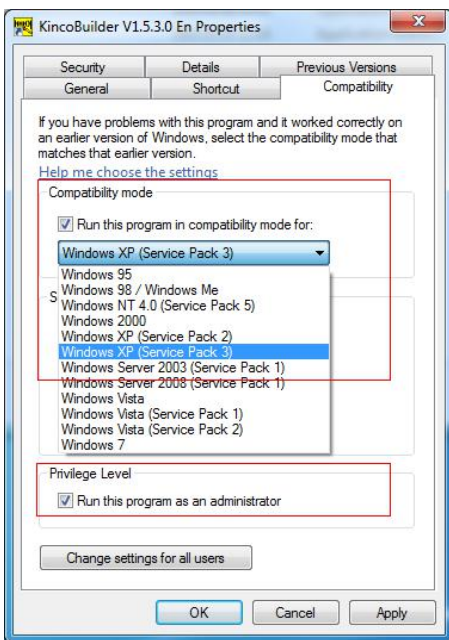

Figure 2-1 “Compatibility Mode” setting
- Click [Compatibility] in the dialog, and then set as shown in figure 2-1